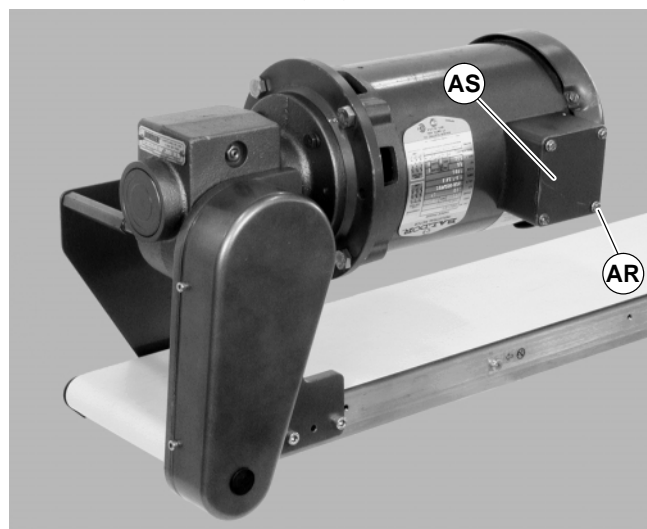

Figure 22
- a. Remove terminal box screws (AR of Figure 22) and remove cover (AS).